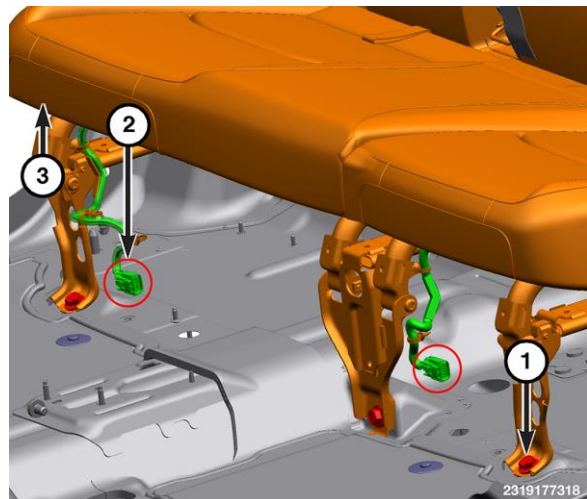

Figure 17 – Rear Seat Components
- 43. Disconnect the wire harness connectors (3), if equipped (Figure 17).
- 44. Remove the bolts (1) at the front of the rear seat. Discard the old bolts. (Figure 17).